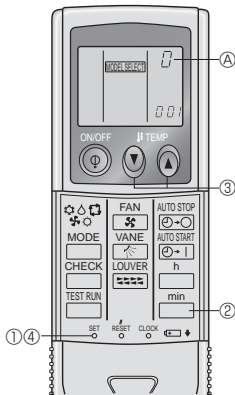

Fig. 6-4
4) IR wireless remote controller pair number setting operation (Fig. 6-4)
- ① Press the SET button with something sharp at the end.